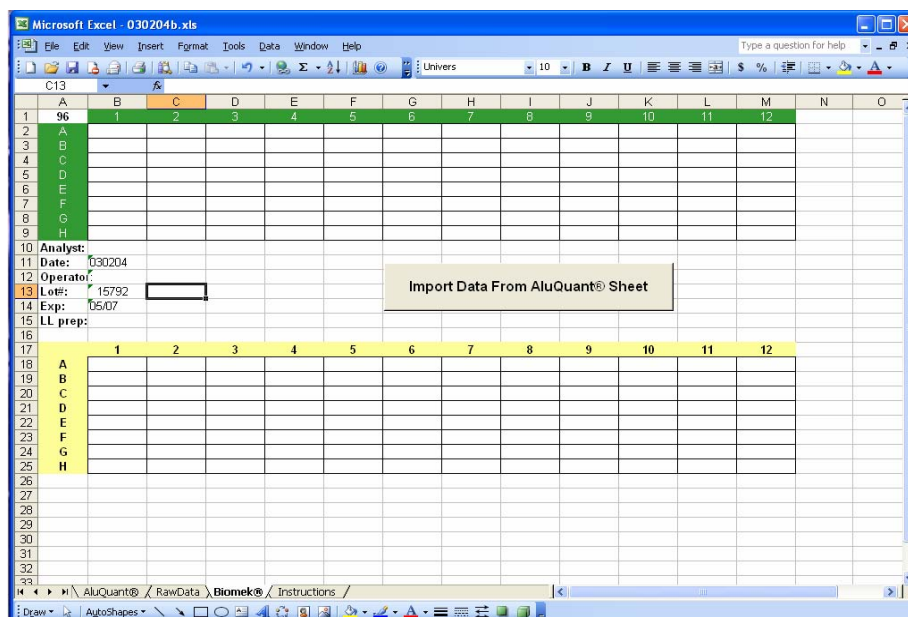

Figure 2. BioMek® Import Data Spreadsheet
- 5.4.2 Transfer the quantitation data into the BioMek® Import Data spreadsheet by clicking on the “Import Data From AluQuant® Sheet” button on the screen (Figure 2).